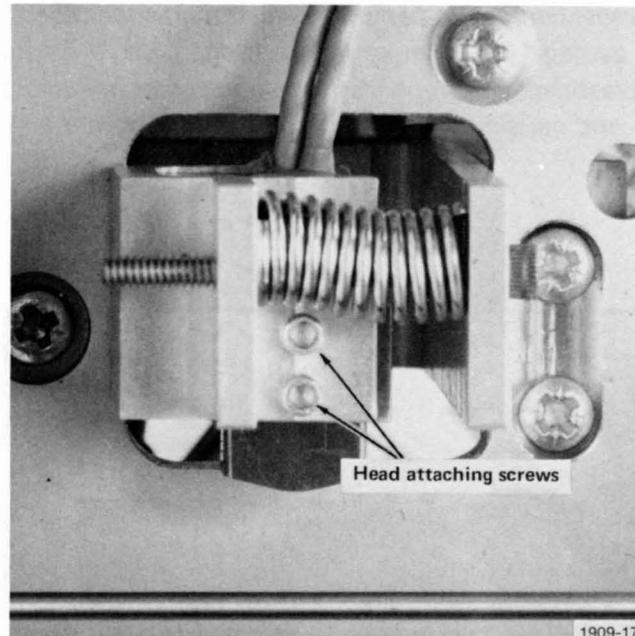

Fig. 3-7. Location of Head Attaching Screws.
1. Remove the two screws that attach the head assembly to the mounting bracket (Fig. 3-7). Remove the head assembly.
4. Place the new head in position, and loosely install the two attaching screws. Position the forward edge parallel to the front of the mounting bracket (Fig. 3-7), and tighten the attaching screws.